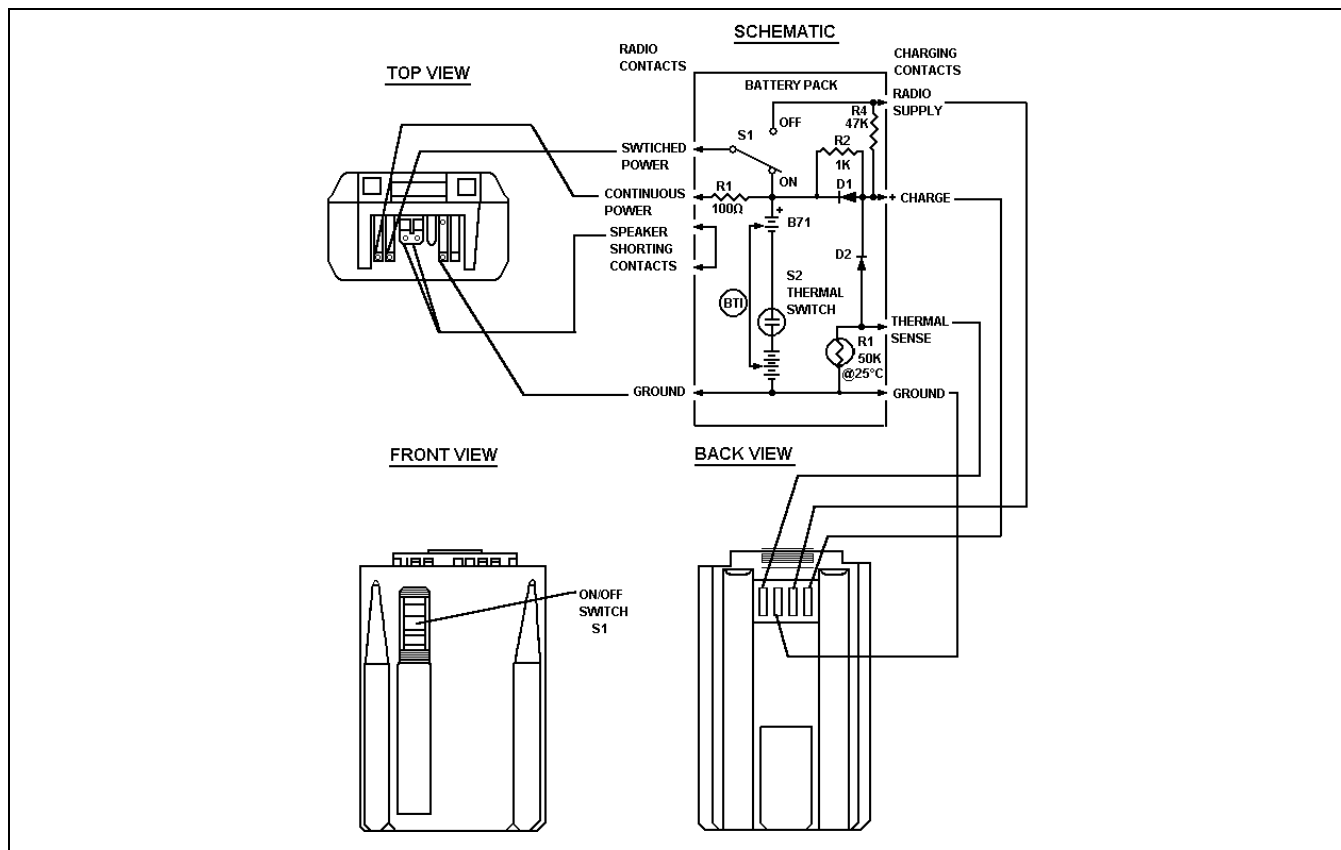

Figure 4 - Typical Battery Pack
Chargers are available with nominal charge times of 1 (rapid) and 14 (standard) hours. Combinations include single (1) and multi (5) position, standard and rapid charge units. The chargers utilize an internal thermistor in the battery pack to sense temperature and automatically control charge rate of the battery. This allows for a maximum charge rate without overheating the battery. All battery packs can be charged in less than 1 1/2 hours with the rapid type chargers. Nominal full charge time in a standard charger is 14 hours. Figure 4 outlines a typical battery pack.